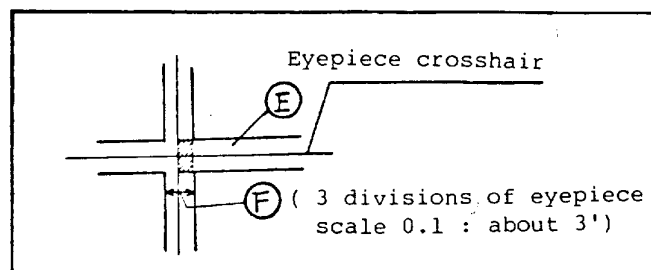
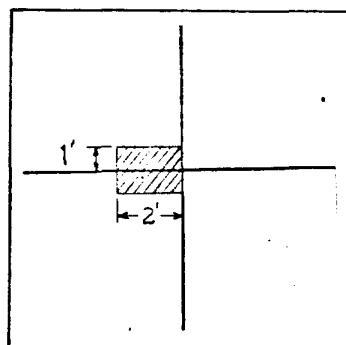

Fig. 58
Fig. 60
- iii) Bring the collimator reticle image center within the hatched area (Fig. 58) on the eyepiece reticle by adjusting the lens cells (34)x2 of G5, 6.
However, in consideration of the parallelism with the left optical axis which is to be adjusted outward relative to the right axis as shown in Fig. 60, the range of allowance for the right optical axis is restricted as shown in Fig. 58.
- ii) Assuming that the right optical axis is exactly perpendicular, the left optical axis is to be adjusted as illustrated in Fig. 60, 61.